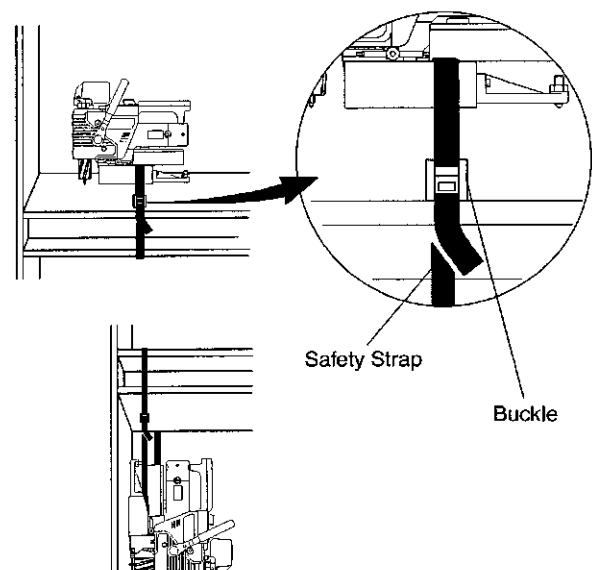

Fig. 3
- Use the safety strap to fix the unit to the work piece when there is a risk that it might fall off from a high place or tumble over if for some other reason the power stops and the magnet is lift off. (Fig. 3) Use the supporting magnet Ass'y (option) to prevent unit from falling off when the safety strap cannot be wound around too big work piece.